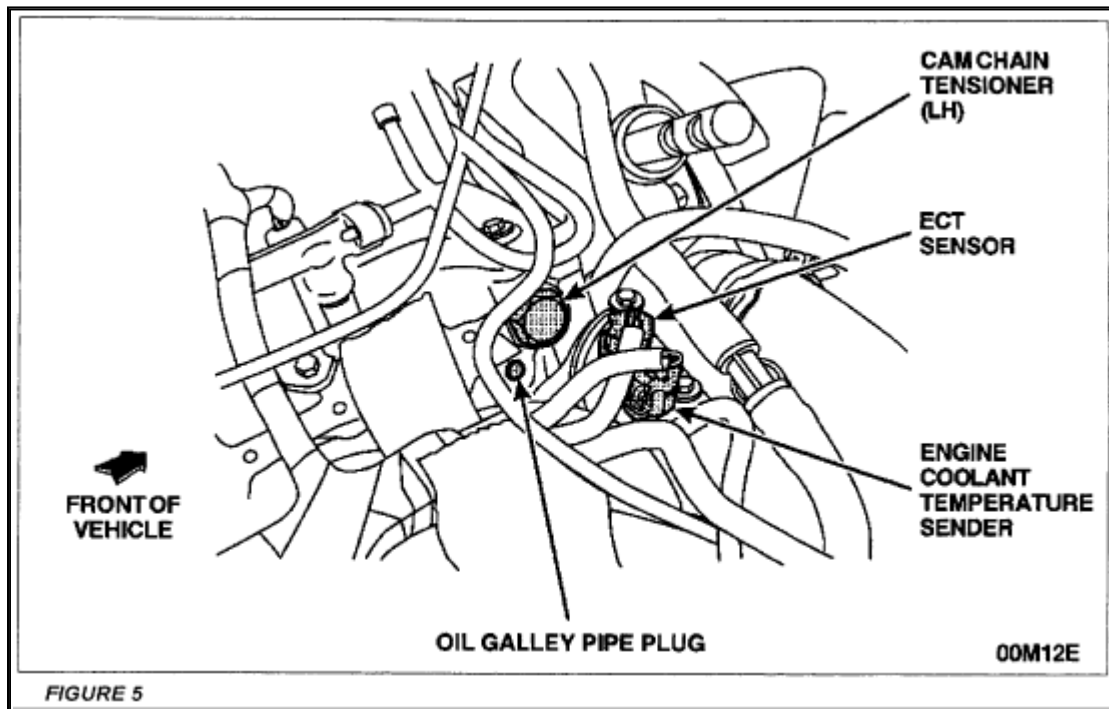

FIGURE 5
1. Disconnect the engine coolant temperature (ECT) sensor and the engine coolant temperature sender. Position the wiring harness connectors away from the oil galley plug area. See Figure 5.
2. Remove the oil galley plug. See Figure 5.
6. Remove the ECT sensor only. See Figure 5.
7. Remove and discard the left cam chain tensioner and washer. See Figure 5.